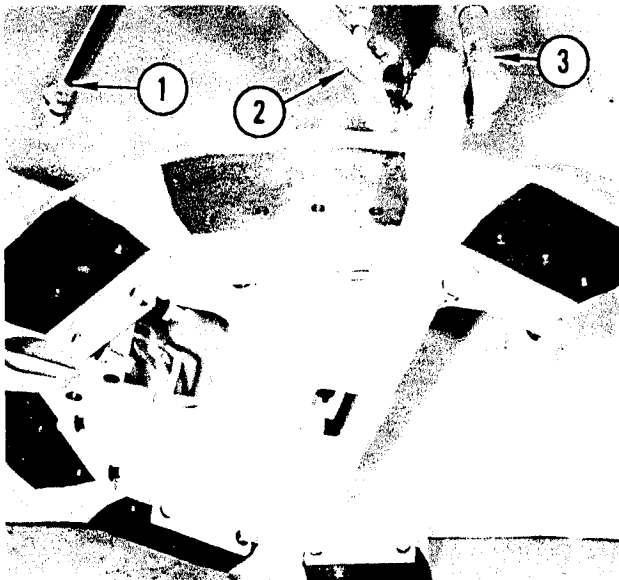

FIGURE 24. DISCONNECT LIFT LINKS
Refer to Figure 24. Remove R.H. lift link (1) from R.H. drawbar ball. Remove L.H. lift link (2) from L.H. drawbar ball. Remove lateral shift link (3) from drawbar ball.